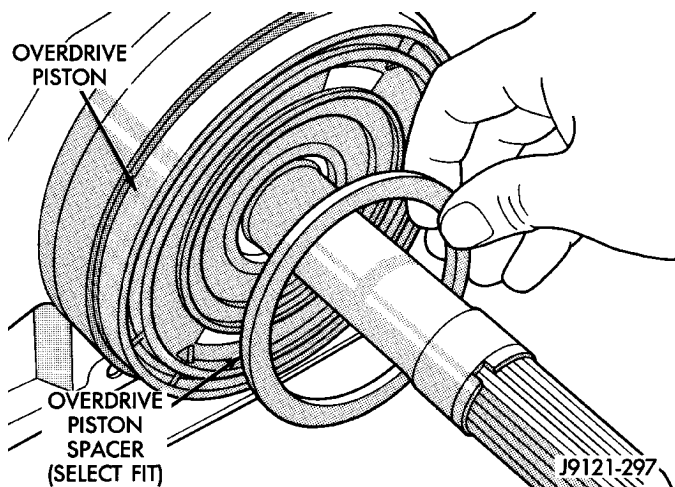

Fig. 195 Overdrive Piston Thrust Plate Removal/Installation
(1) Remove overdrive piston thrust plate (Fig. 195). Retain thrust plate. It is a select fit part and may possibly be reused.